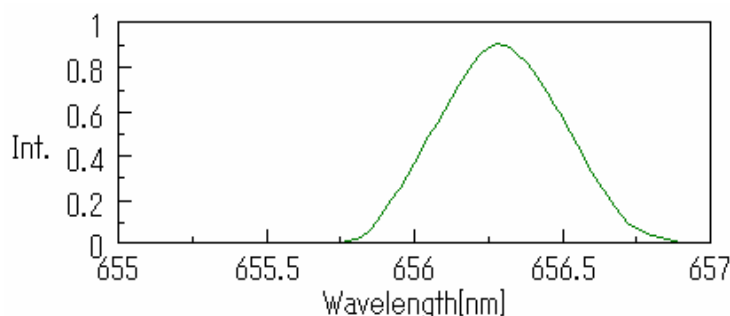
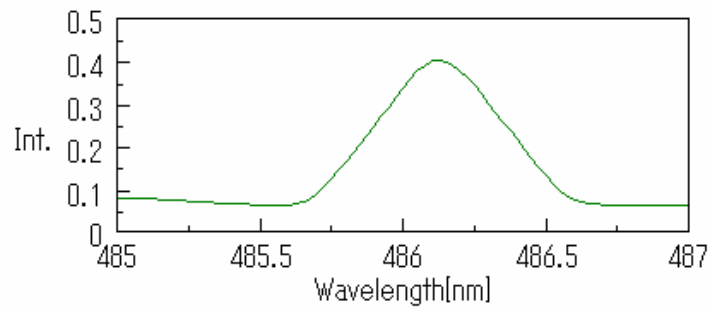

Fig. 4.5 D₂ lamp spectrum with emission line at 656.1 nm
Fig. 4.6 D₂ lamp spectrum with emission line at 486.0 nm
- (3) Measure the spectrum of the D₂ lamp with an emission line at 656.1 nm and at 486.0 nm with the sample chamber empty. Measurement examples are shown in Fig. 4.5 and Fig. 4.6.
- (4) Measure the single beam spectrum with the sample chamber empty to obtain the emission line spectra of the D₂ lamp. Measurement examples are shown in Fig 4.5 and Fig. 4.6.
- (5) Wavelength accuracy is normal if the measurement results are within the following criteria.